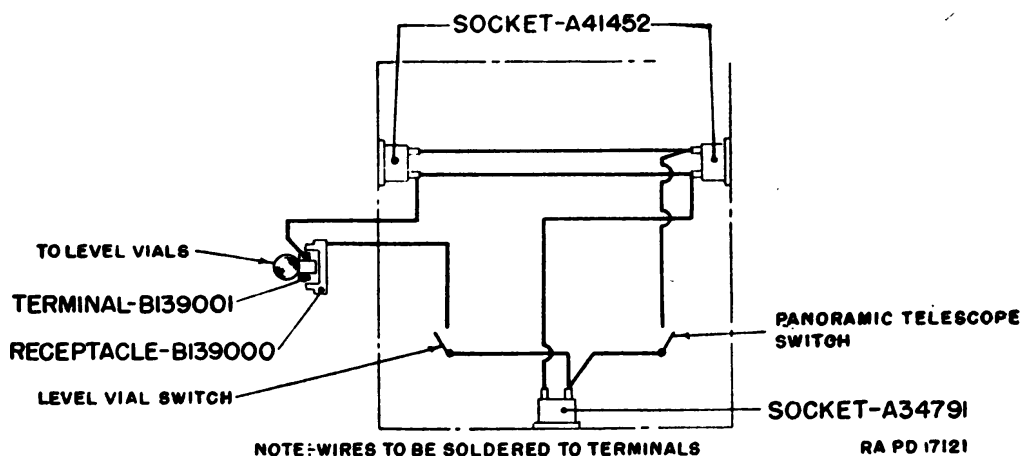

FIGURE 16.—Wiring diagram.
(2) Place the panoramic telescope in the telescope holder and set the azimuth scale, deflection scale, and micrometers to zero.
(3) The adjustment of the locating screws is correct if the line of sight of the telescope is parallel with the line of sight through the gun bore.
(4) Error in excess of 0.025° (indicated on the panoramic telescope) requires adjustment (par. 25).
e. Location of defects in electrical components.—(1) Refer to the wiring diagram in figure 16.